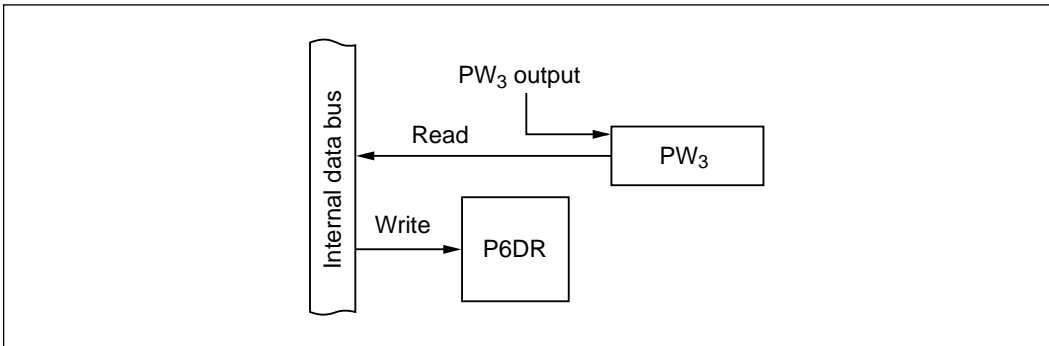

Figure 10-42 PW₃ Output Combined with General-Purpose Input (Modes 1 to 7)
(7) PW₃ Output Combined with General-Purpose Input (P6₀: Modes 1 to 7): Figure 10-42 shows a block diagram illustrating the PW₃ output function of P6₀ when combined with general-purpose input. Table 10-33 indicates register read/write data. When P6₀ is used for PW₃ output it can also be read as a general-purpose input port, to monitor the state of the PW₃ pin.